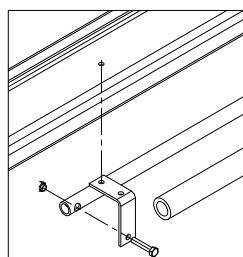
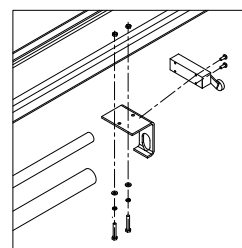

Fig.35
Fig.36
4. Install the safety bar according to fig.35 and fig.36.